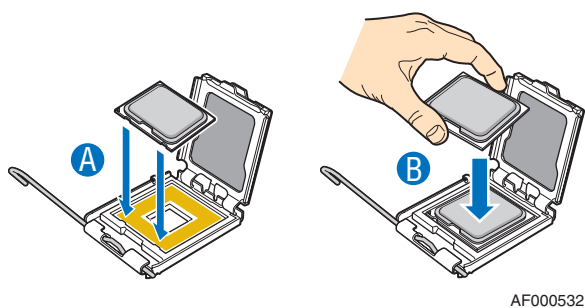

Figure 13. Installing the Processor
8. Orient the processor with the socket so that the processor cutouts match the socket notches. Install the processor as shown in Figure 13.